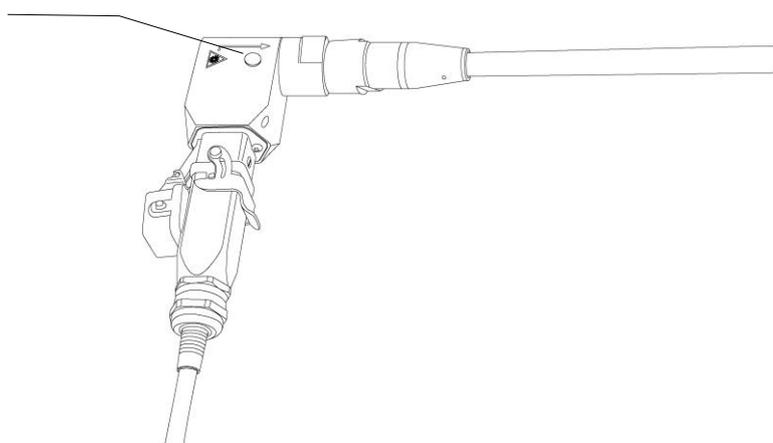

Figure 1: LED laser indicator on right-angle EO fiber connector
- **Non-removable right-angle EO fiber connector (Figure 1):** The indicator is located on the assembly. When there is potential for the laser to be energized, the indicator light is illuminated.